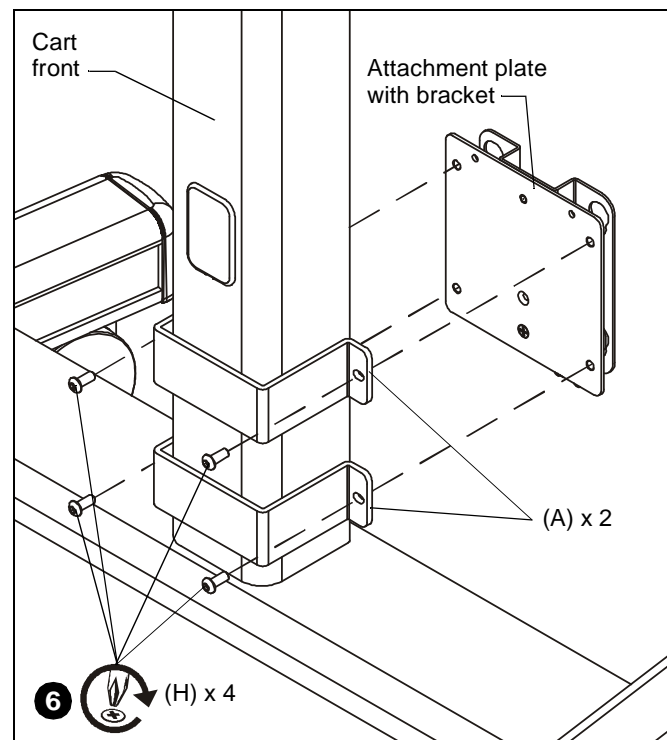

Figure 4
6. Fasten attachment plate with bracket around cart or stand column using two array clamps (A) and four 1/4-20 x 3/4" button head cap screws (H). (See Figure 4)